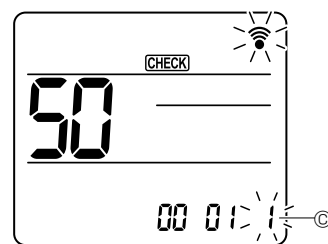

Fig. 6-19
- ④ Selecting the setting number
- Use the [5] button to change the Setting number ③. (Fig. 6-19)
- ⑤ To select multiple functions continuously
- Repeat select ③ and ④ to change multiple function settings continuously.
- ⑥ Complete function selection